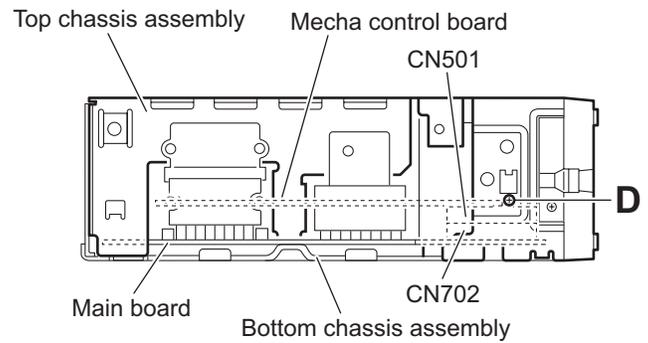

Fig.5
- (3) Lift the top chassis assembly in the direction of the arrow, and disconnect the connector **CN501** on the mecha control board from the connector **CN702** on the main board. (See Figs.5 and 6)
- (4) Take out the top chassis assembly from the bottom chassis assembly.